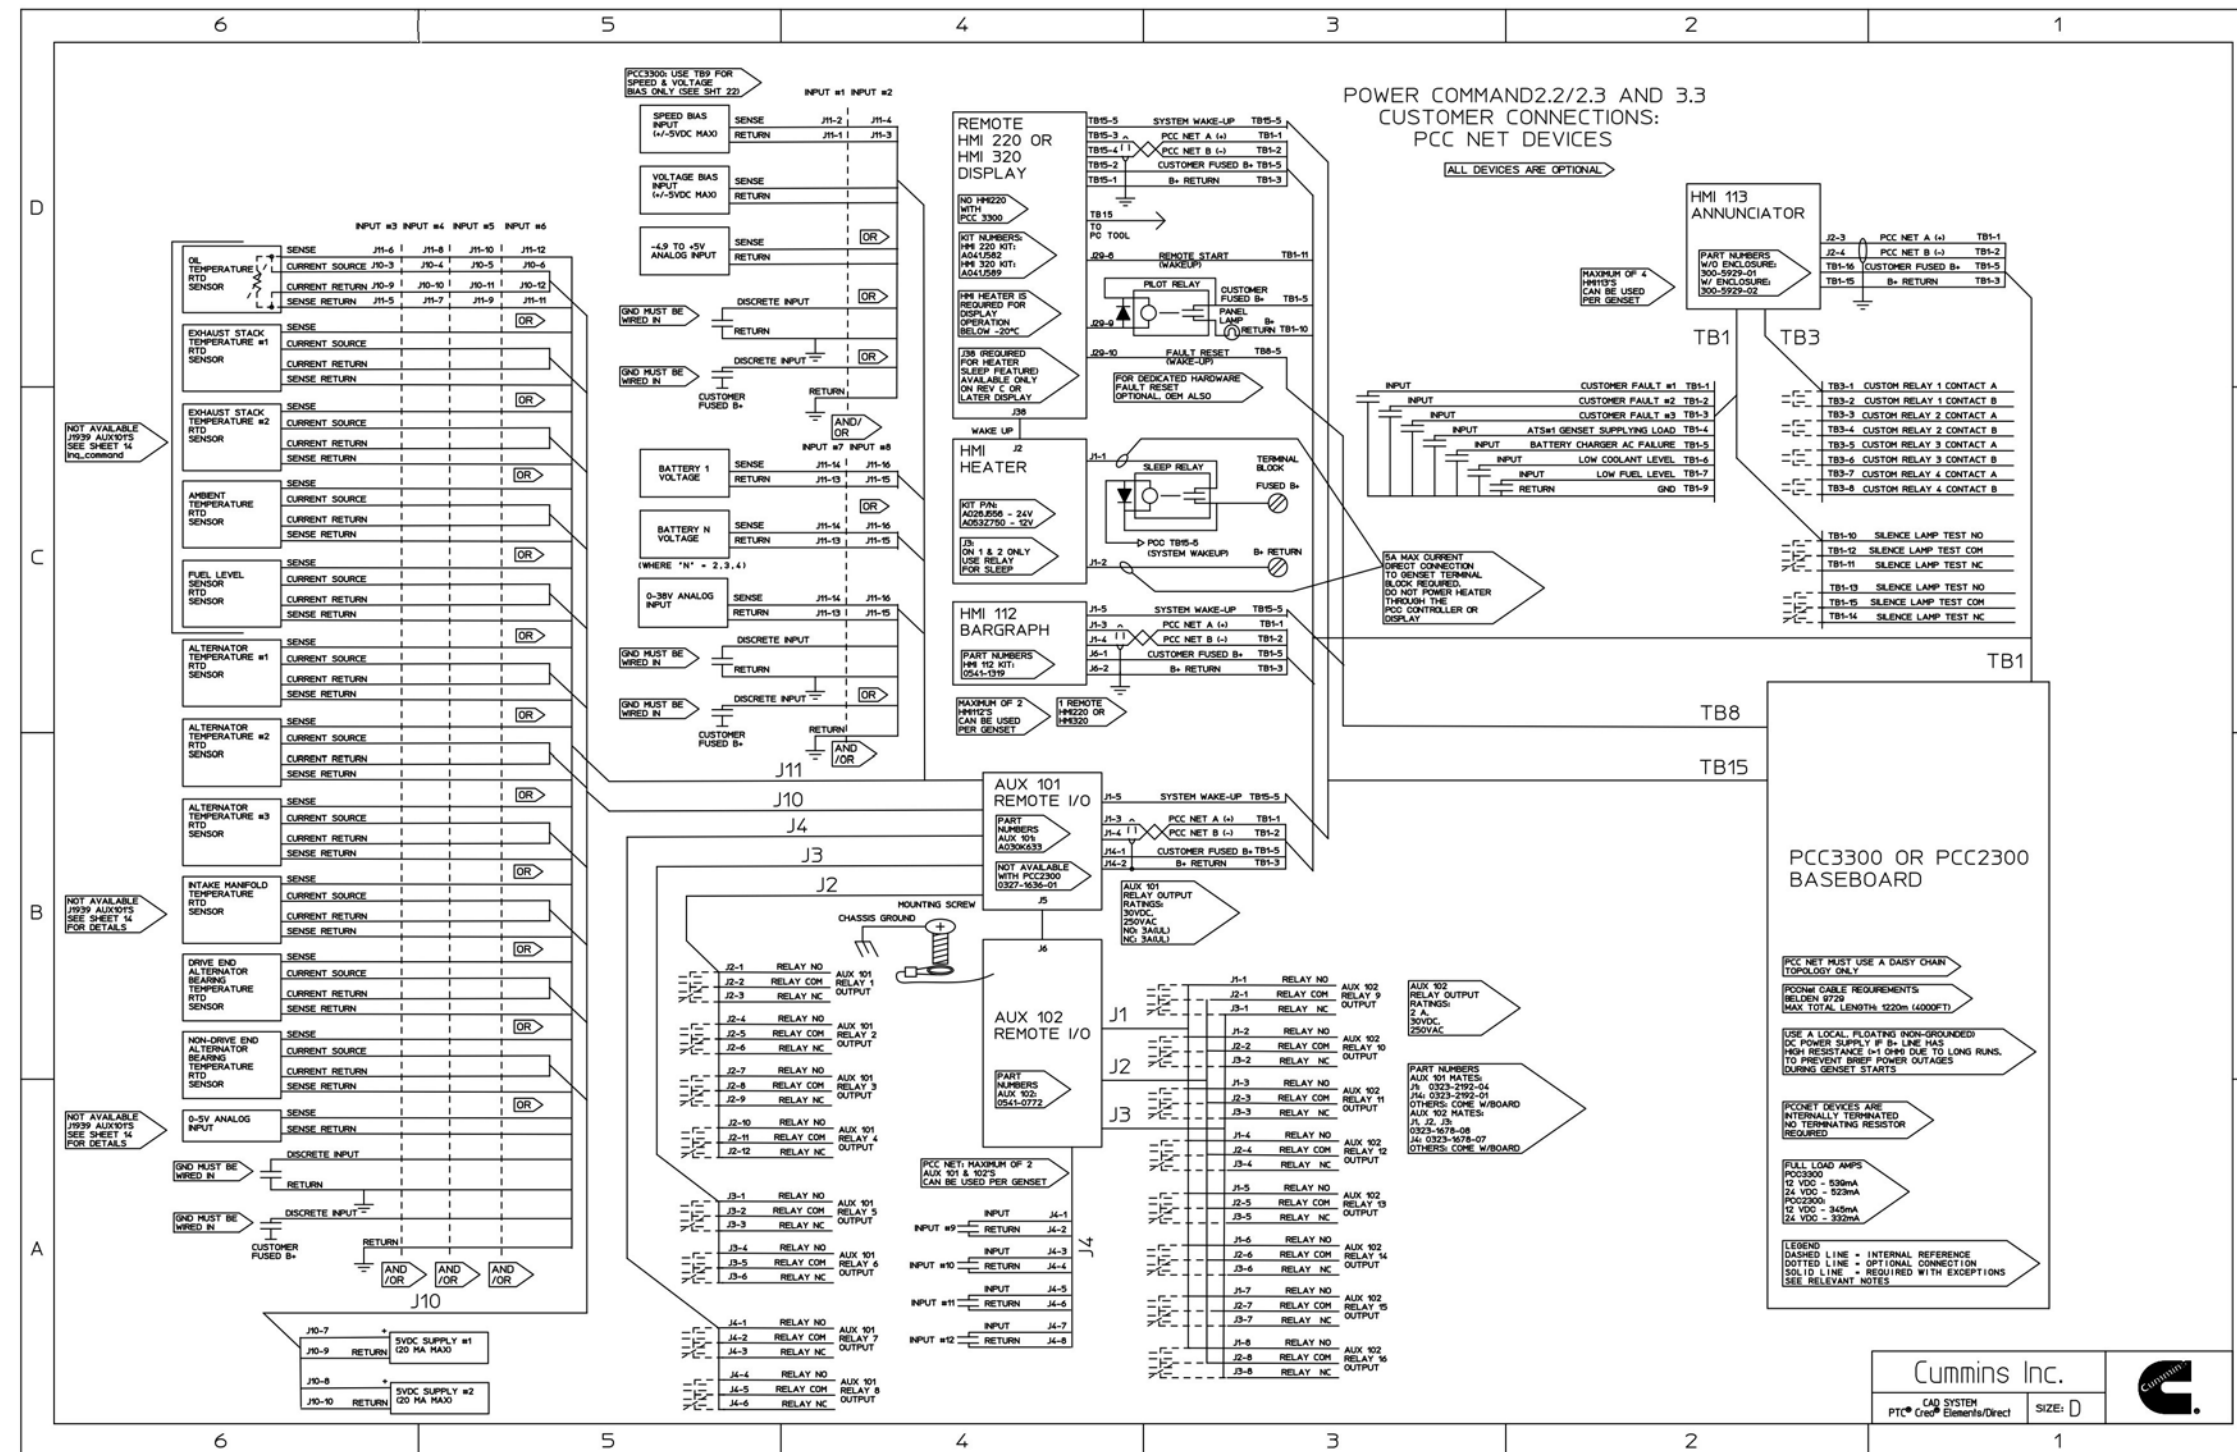

FIGURE 72. CONTROL CUSTOMER CONNECTIONS - PCC NET DEVICES
- Figure 72. Control Customer Connections - PCC Net Devices 127